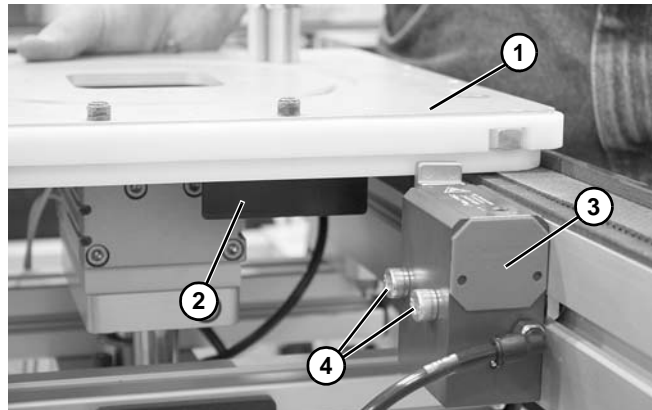

Figure 55
5. Place pallet (**Figure 55, item 1**) on lift and rotate plate (**Figure 55, item 2**). Raise top plate to underside of pallet.
6. Install pallet stop (**Figure 55, item 3**). See “Pallet Stops” on page 6.
7. Position stop against pallet and tighten socket head screws (**Figure 55, item 4**).